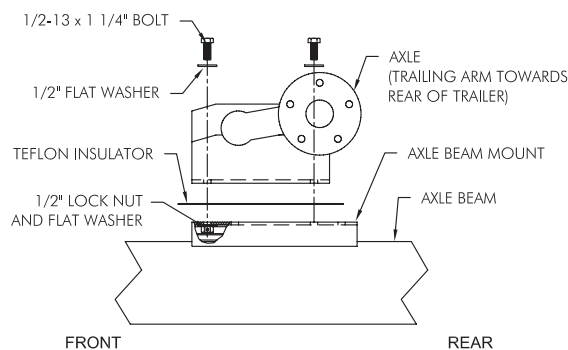
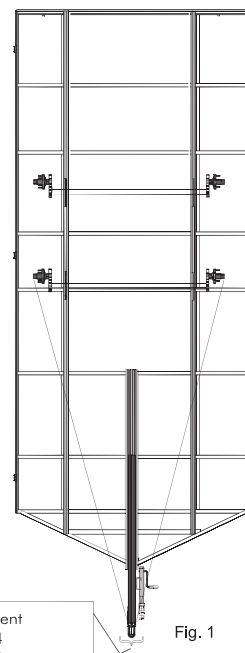

Fig. 2
Fig. 1
2. Set axle(s) on top of Teflon insulators so trailing arm taper is to the rear of trailer. Start each of the four bolts but do not snug up yet. See Fig. 1 and Fig. 2